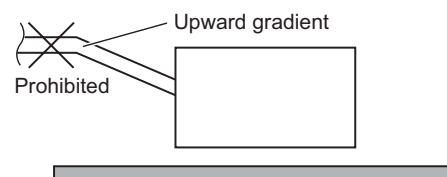

Fig. 2-86
- Do not install the pipe with an upward gradient from the connection port. This will cause the drain water to flow backward and leak when the unit is not operating. (Fig. 2-86)